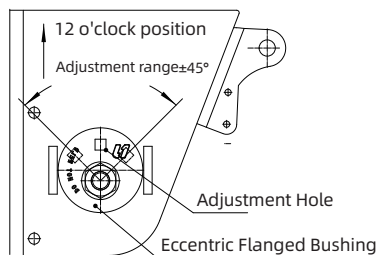

Fig. 8
(9) Check the adjustment hole direction of the eccentric flange bushing (must be at 12 o'clock position, the middle of the adjustment range), as shown in Fig. 8.